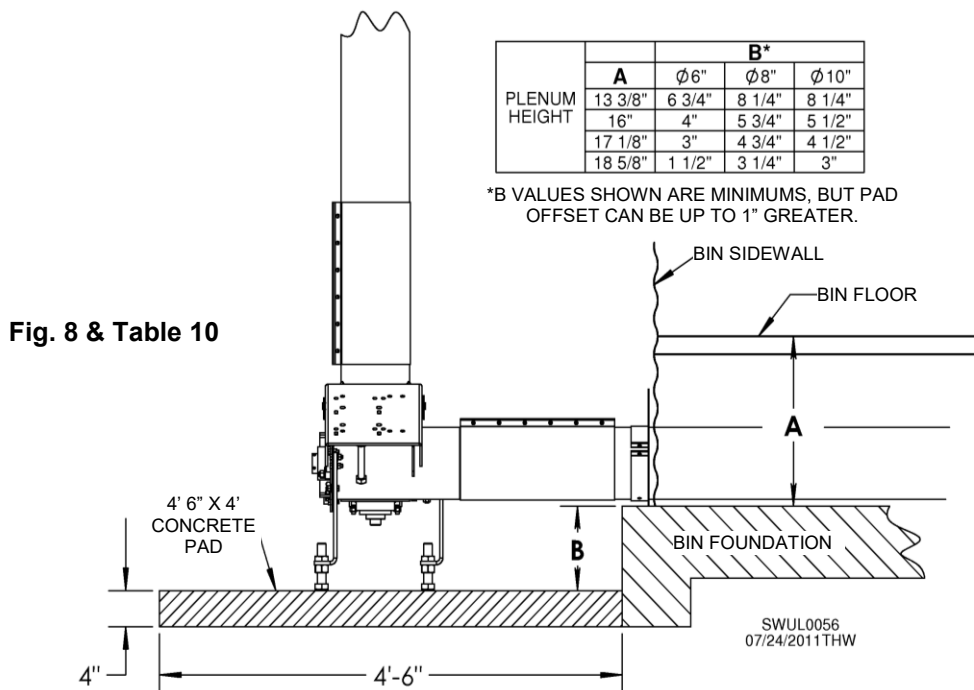

Fig. 8 & Table 10
A concrete pad, 4' 6" x 4' measured from bin foundation, is required for unload systems using vertical boot drive. Pad should be poured below level of concrete floor of bin, as shown in Fig. 8. Use Plenum Height table to determine pad offset (B) from bin floor. **NOTICE:** In northern locations, frost can lift pad, causing damage to unload system. Loosen threaded support legs in winter and re-tighten in spring.